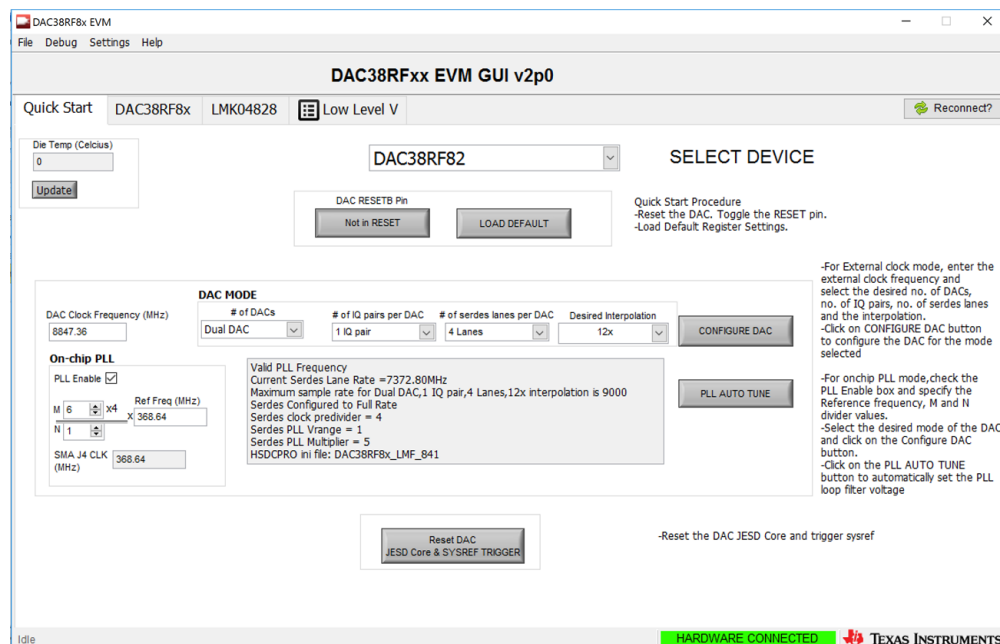

Figure 2. DAC38RF8x EVM GUI Quick Start Tab
- Step 1. Launch the DAC38RF8x EVM GUI and select the *Quick Start* tab (see Figure 2).